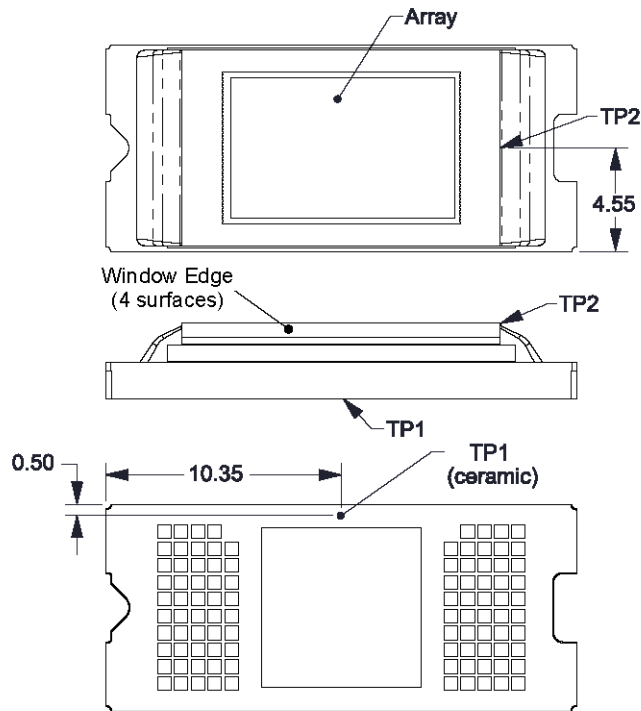

Figure 8-3. Thermal Test Point Location - FQD Package
The DMD is designed to conduct the absorbed and dissipated heat back to the package where it can be removed by an appropriate thermal management system. The thermal management system must be capable of maintaining the package within the specified operational temperatures at the Thermal test point location, see Figure 8-3. The total heat load on the DMD is typically driven by the incident light absorbed by the active area; although other contributions can include light energy absorbed by the window aperture, electrical power dissipation of the array, and/or parasitic heating.
The temperature of the DMD case can be measured directly. For consistency, a thermal test point location TP1 representing the case temperature is defined as shown in and Figure 8-3.
- Thermal test point location (see or Figure 8-3)